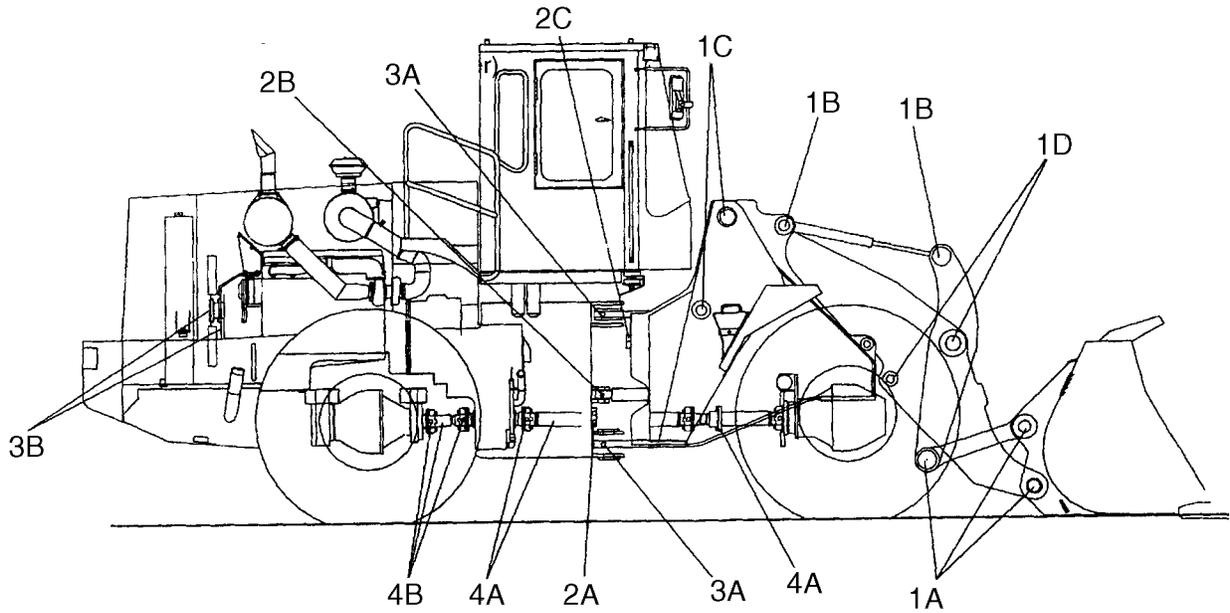

FIGURE 3-1
1. The following fittings are greased daily, or every 10 hours. If the bucket is being used in water, grease fittings 1A through 1D immediately after the machine is removed from the water. See Figure 3-1.